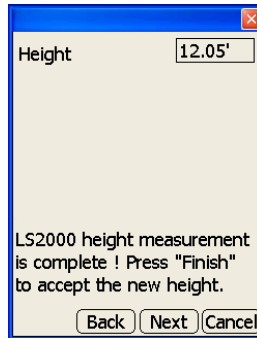

Figure 5-19. Save LS-2000 Height
12. When the GRT-2000 finishes the measurement, the height of the LS-2000 from the cutting edge displays on the **LS-2000 height** dialog box (Figure 5-19).